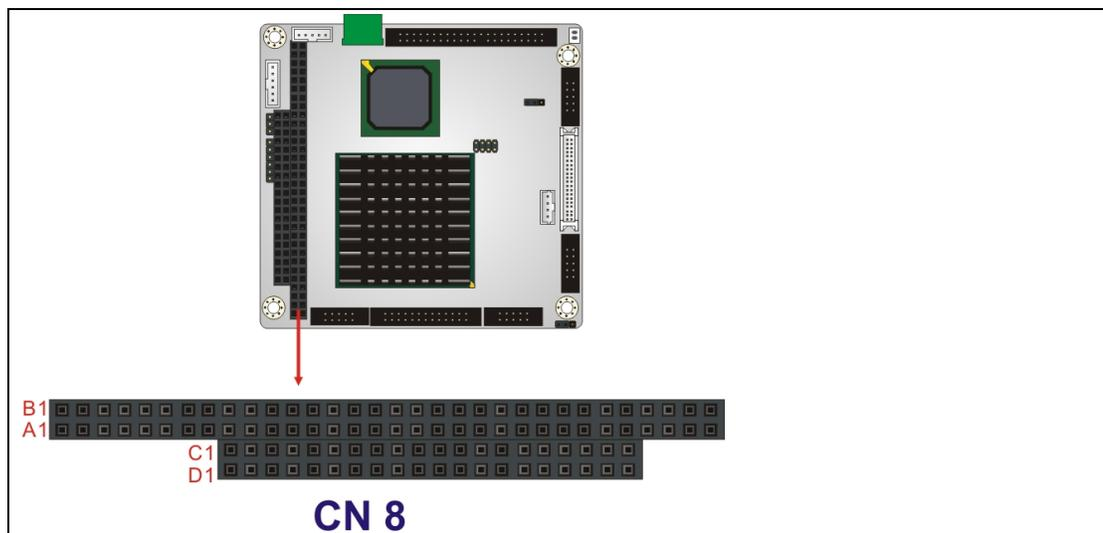

Figure 3-15: PC/104 Slot Location
- CN Location:** See **Figure 3-15**